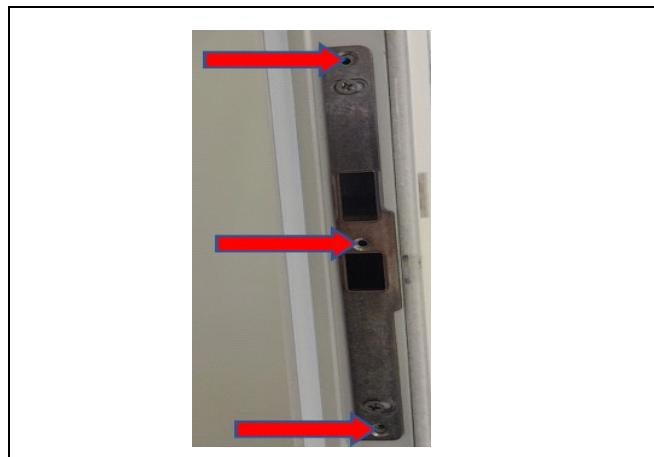

Figure 3
4. Use a 5/32" drill bit to drill three holes through the inactive panel astragal or frame jamb indicated by the red arrows. These holes will be used to secure both the strike plate spacer and the strike plate to the inactive panel astragal or the frame jamb. See Figure 3.